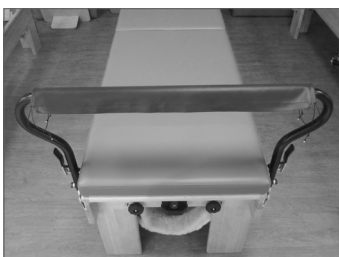

Figure 7
8. Center the new footbar cover over the foam on the footbar. It should barely cover the ends of the foam. See Figure 7.